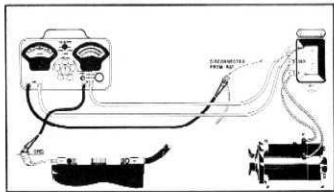

Fig. 32
3. Connect the positive lead of the voltmeter to the battery terminal of the regulator and the negative lead to a good ground (fig. 32).